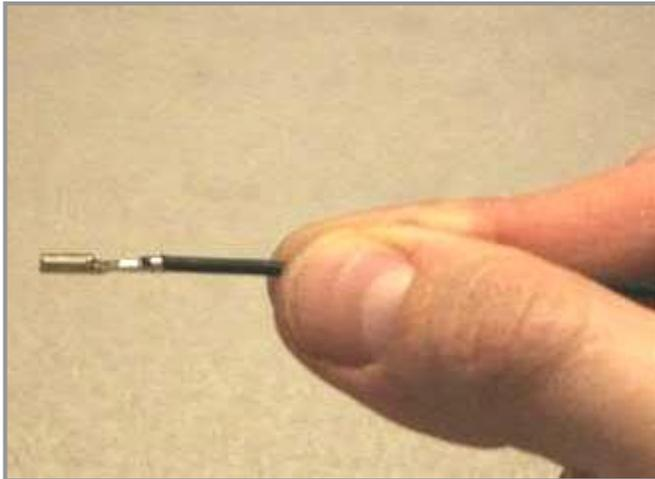
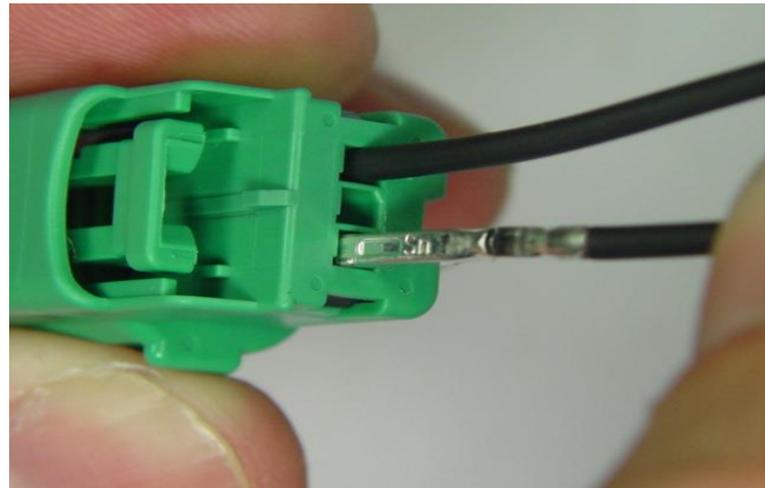

Fig. 3-9
Fig. 3-10
- Grip the wire, (Fig. 3-9) and insert through appropriate circuit opening (Fig. 3-10). If resistance is encountered, retract the terminal and adjust the angle of insertion. Continue inserting the terminal until it stops and locks on the lock finger with an audible click, then pull the wire to ensure terminal is locked. (PUSH CLICK PULL)